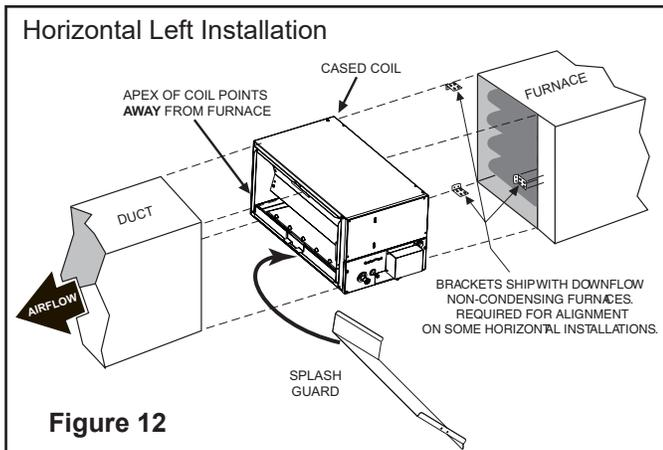

Figure 12
**Important:** The cased coil must be placed downstream of the furnace. See Figure 12 for proper orientation.
- Two brackets are used to attach the rear of the coil and furnace and one bracket is used to attach the front. The rear brackets will use existing screws on the coil enclosure (two on each side at the bottom). Each of the rear brackets will be attached with the wide side of the bracket resting on the top and bottom of the horizontal coil and furnace (see Figure 12). Four additional screws will be used to attach each rear bracket.